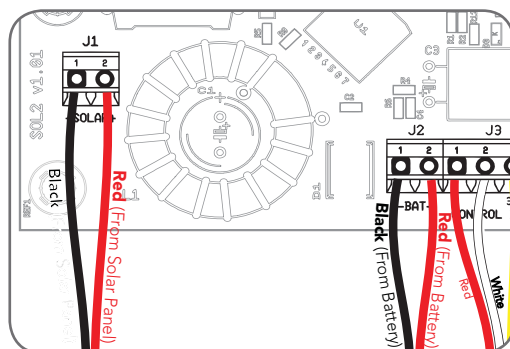

Fig 08
2. Connect the **red wire** to the Charger Board's "SOLAR+" connector, and the **black wire** to the "-SOLAR" connector (Fig. 08).
5. Connect the **red wire** to the Charger Board's "BAT+" connector, and the **black wire** to the "-BAT" connector (Fig. 08).